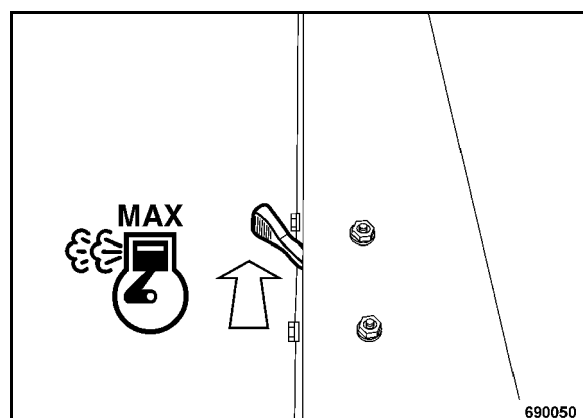

Fig. 21
- Set the throttle lever (Fig. 21) to position "MAX".